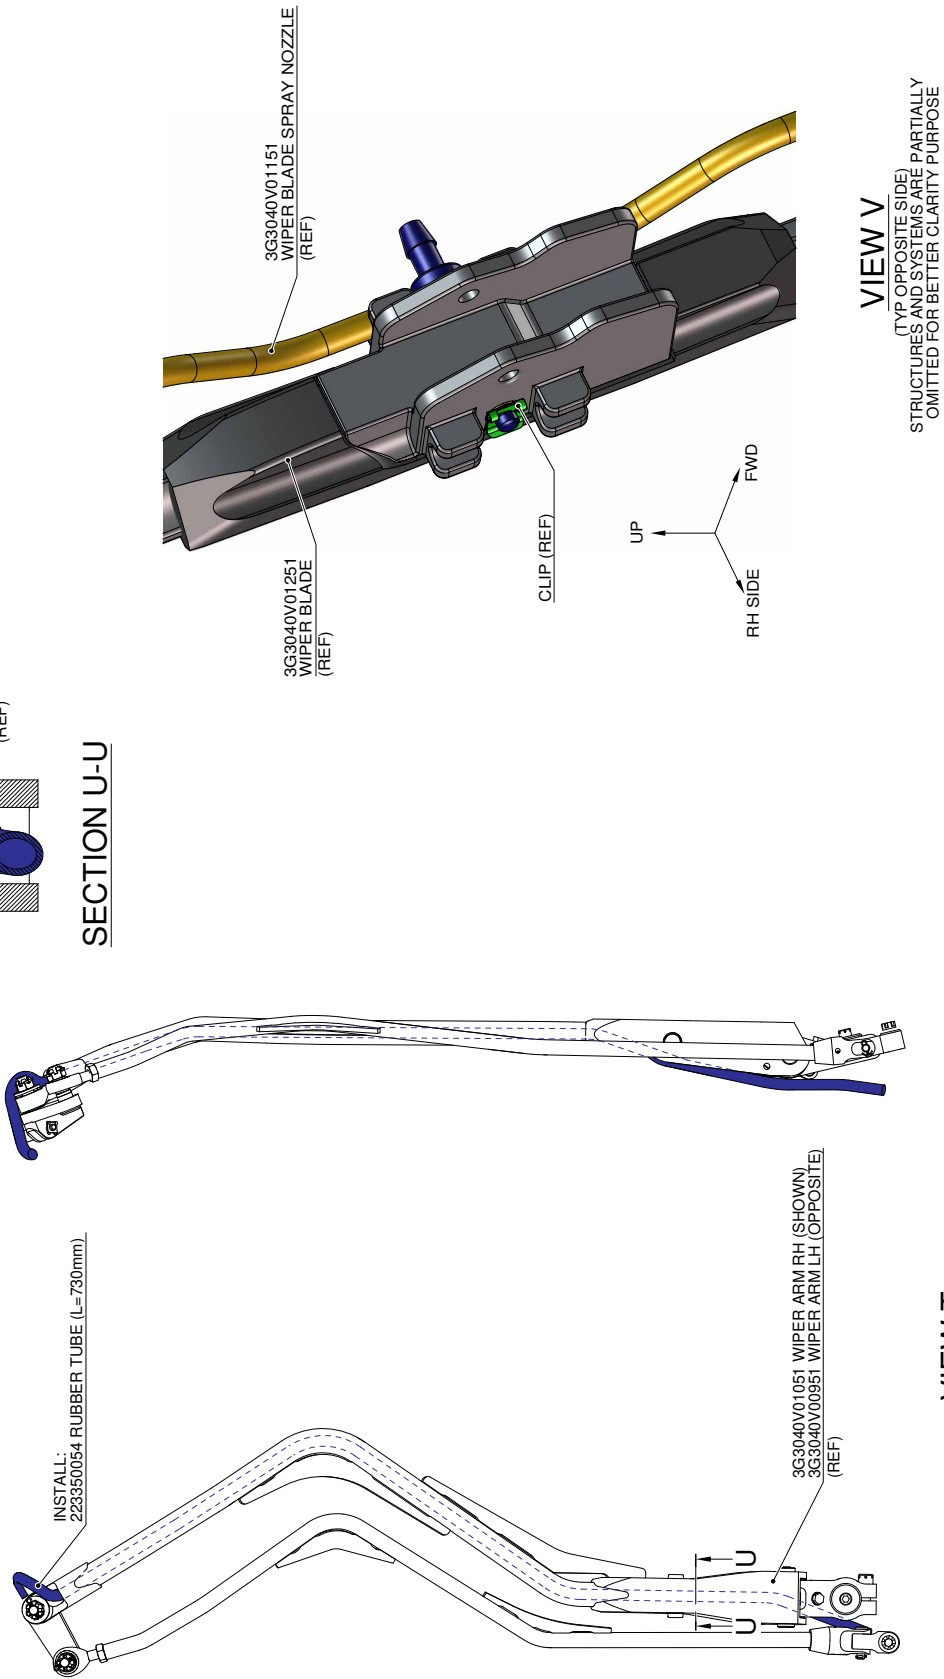

Figure 8
13. With reference to Figure 8 View V, remove the clips from wiper blade spray nozzles P/N 3G3040V01151 and retain for later re-use.
14. With reference to Figure 6 and Figure 8 View V, install n°2 wiper blade spray nozzle P/N 3G3040V01151 on RH and LH wiper blade and relevant clips.
19. With reference to Figure 8 View T, install rubber tube P/N 223350054 of adequate length on wiper arm LH P/N 3G3040V00951.
20. With reference to Figure 8 View T, install rubber tube P/N 223350054 of adequate length on wiper arm RH P/N 3G3040V01051.